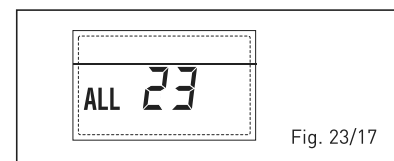

Fig. 23/17
– **ANOMALIA SONDA COLETOR SOLAR (S1) “ALL 24”** (fig. 23/18)